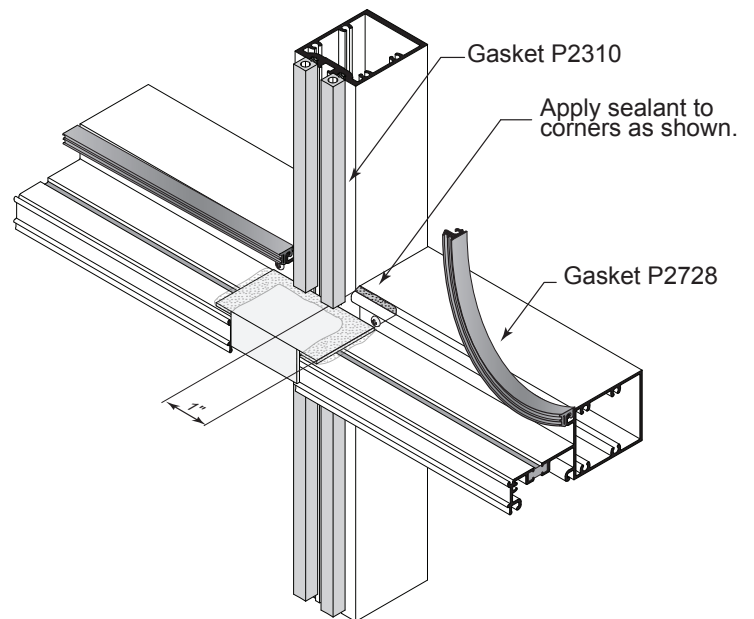

Fig.53.2
- C. Install glazing gasket P2728 on head, horizontal, and sill members on interior side of framing first. See **Fig 53.2**